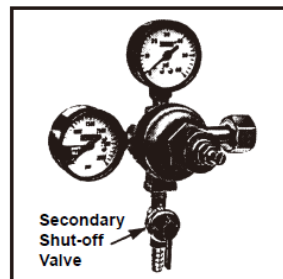

Figure 11
- Make sure the secondary shut-off valve (shown in **Figure 11** in 'Open' position) is closed. To open the main CO₂ cylinder valve, slowly turn the main valve counter-clockwise until fully open.